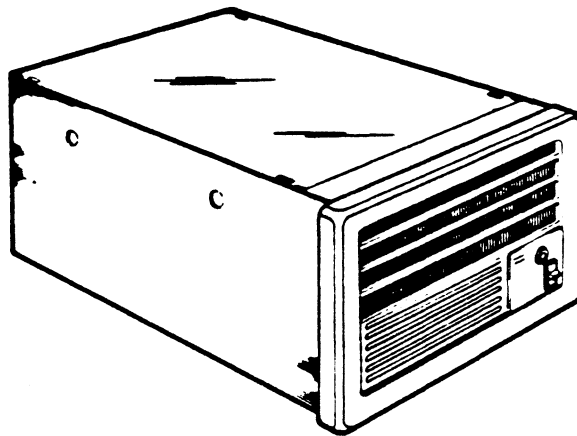

FIGURE 1-2 PDP-11/84 BOX PRODUCT
- b. PDP-11/84: an expansion box kernel system configuration packaged in a 10.5-inch rackmountable enclosure. (See Figure 1-2.)